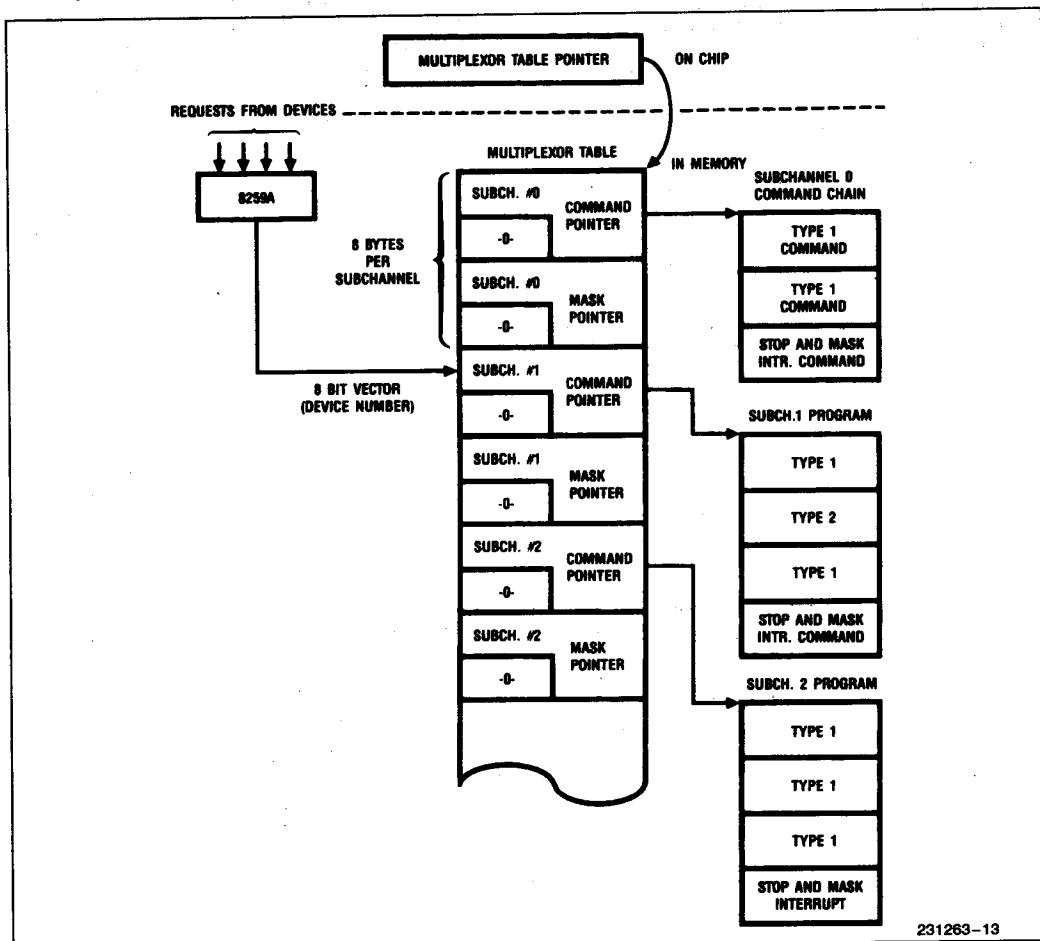

Figure 14. Multiplexor Table
As a multiplexor channel, channel 3 uses an external multiplexor table (MT) in the memory to store separate command pointers and, the PIC (8259A) mask register locations for each device in that channel. Each entry in the MT consists of 8 bytes; the first 4 give the command pointer for the subchannel and the second 4 the address of the mask register of the 8259A for that subchannel (Figure 14).